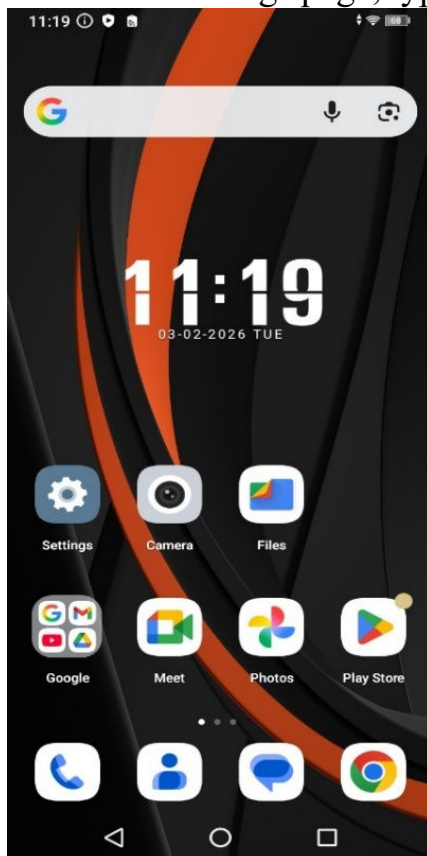

Figure 8 – Home Page
3. On the home page, select the “Settings” item (Figure 8).